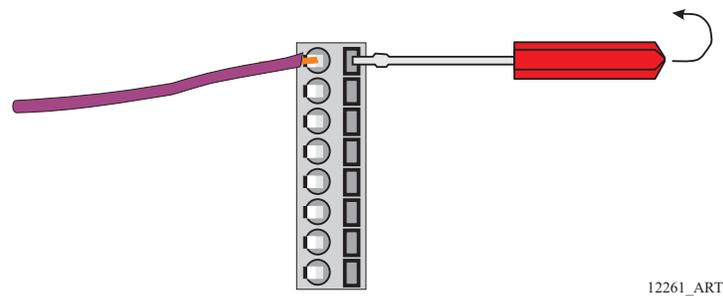

Figure 4-9: Terminal Strip Cable Connections
- K Connect the conductors to the appropriate Terminal pins, as shown on Table 4-2: Processor and Control Head Hard-Wiring Connections for Remote Stations -w/o DP Interface:, using a small slotted screwdriver as shown in Figure 4-9: Terminal Strip Cable Connections.